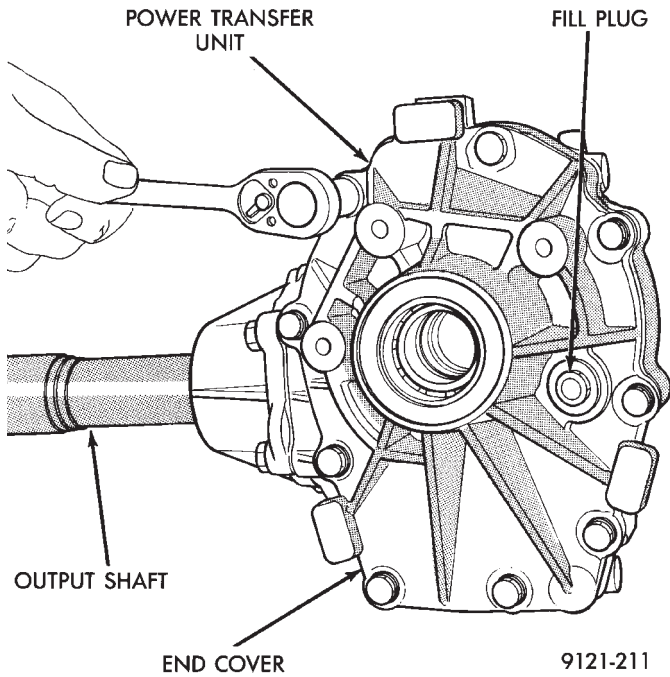

Fig. 6 End Cover Bolts
- (1) Remove power transfer unit from the vehicle.
- (2) Remove end cover bolts (Fig. 6).